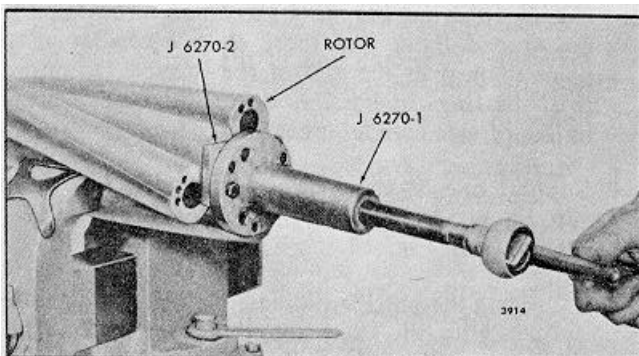

FIG. 12 - Removing Oil Seal Ring Carrier from Blower Rotor Shaft (Turbocharged Engine Blowers)
- c. Refer to Fig. 12 and place the seal ring carrier remover adaptor J 6270-2 over the carrier. Make sure the adaptor is seated in the groove of the carrier.
- f. Turn the puller screw clockwise and pull the oil seal ring carrier from the rotor shaft (Fig. 12).